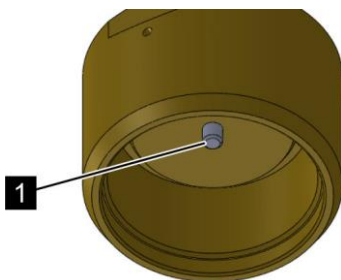

Fig. 23: Release pin
4. ▶ Ensure that the release pin (Fig. 23/1) of the electric release device is not active.